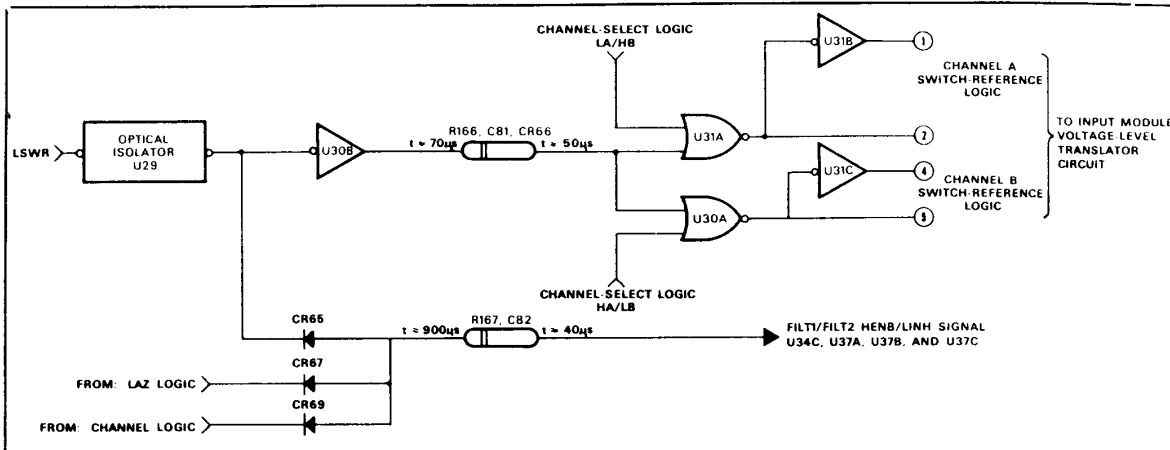

Figure 7-47. Channel A&B SWR Logic Circuit, Simplified Schematic
- b. **Channel A&B SWR Logic Circuit.** This circuit inverts and delays the input LSWR (switch-reference) signal and gates it with a channel-select signal from the demultiplexer logic circuit. The circuit gating action produces Channel A and Channel B switch-reference control signals. The circuit also temporarily inhibits logic gates in the smoothing logic circuit when the LSWR input signal goes LOW. A simplified schematic of this circuit is shown in Figure 7-47.
The LSWR control line (Figure 7-47) is applied to optical isolator U29. U29 optically couples the LSWR signal to inverter U30B and diode CR65, which functions as an OR gate. CR65, when it becomes forward biased, causes NAND gates U34C, U37A, U37B, and U37C to become inhibited. The circuit action of the R167/C82 delay circuit is the same as described in subparagraph a., above. U30B inverts the output of U29 and applies it to the R166/C81/CR66 delay circuit. This circuit delays the signal 70  $\mu$ s and then applies it to NOR gates U30A and U31A. The output logic states of U30A and U31A are as follows: